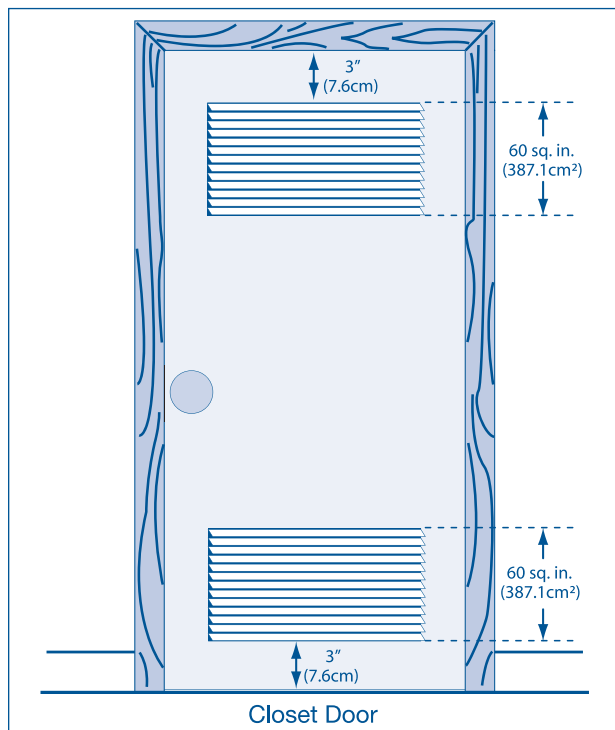

Figure 2-6.
4. Closet door ventilation required: A minimum of 120 square inches (774.2 cm2) of opening, equally divided at the top and bottom of door, is required. Openings should be located 3 inches (7.6 cm) from bottom and top of door. Openings are required to be unobstructed when a door is installed. A louvered door with equivalent air openings for the full length of door is acceptable. (See Figure 2-6 & 2-7)